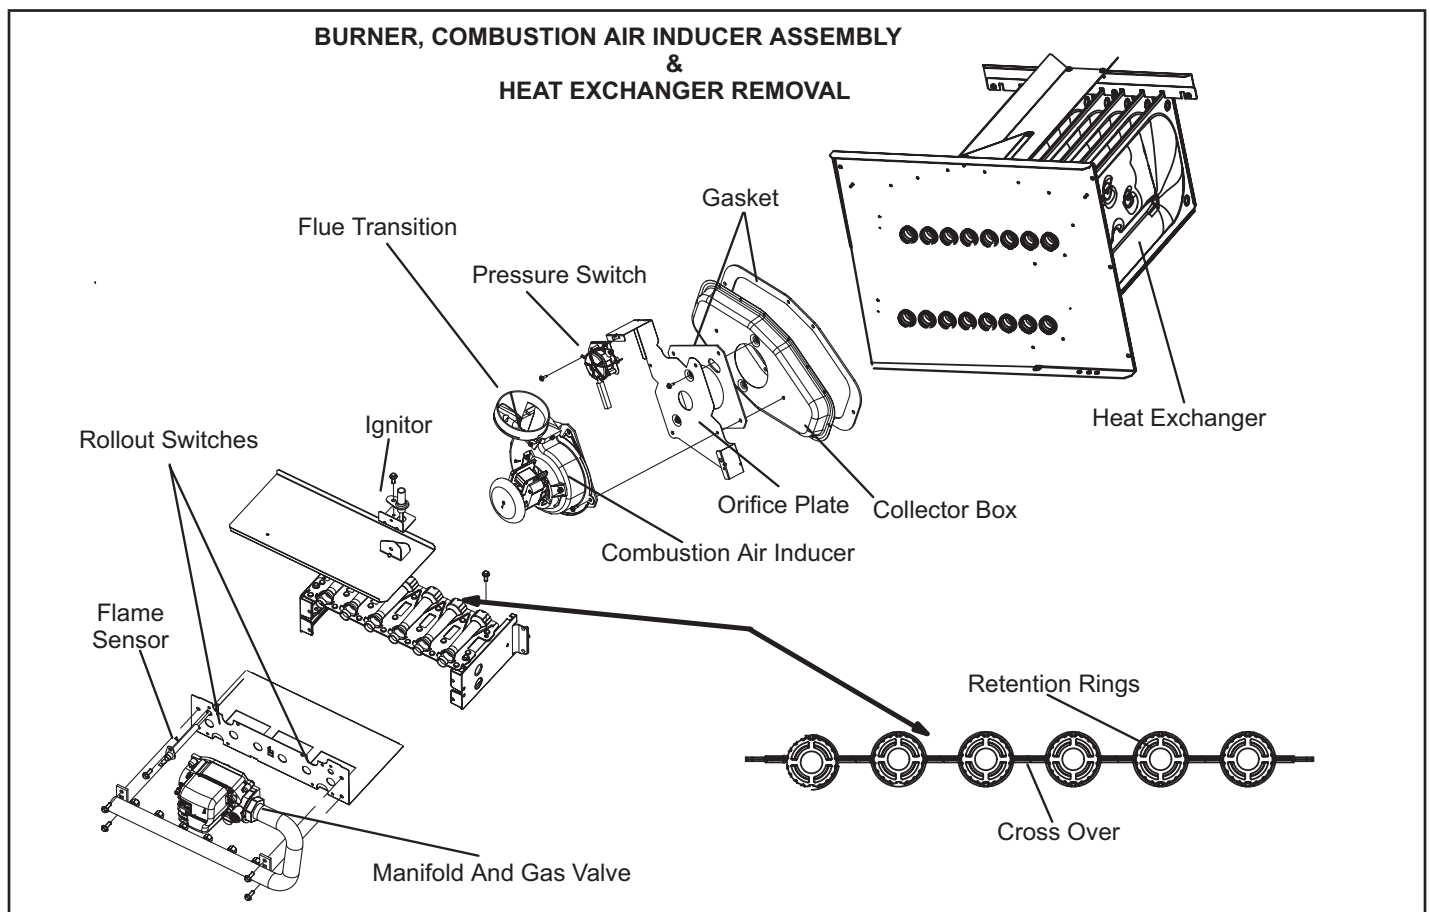

FIGURE 25
- 11 - To clean burners, run a vacuum cleaner with a soft brush attachment over the face of burners. Visually inspect inside the burners and crossovers for any blockage caused by foreign matter. Remove any blockage. Figure 25 shows burner detail.